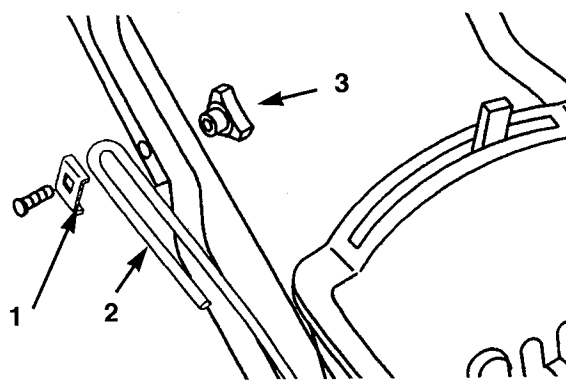

Figure 46
- C. Install the U-shaped end of the mounting rod against the outside of the mower handle, using the new bracket and the original bolt and handle knob (Fig. 46). Make sure the curved sides of the bracket fit around the mounting rod.